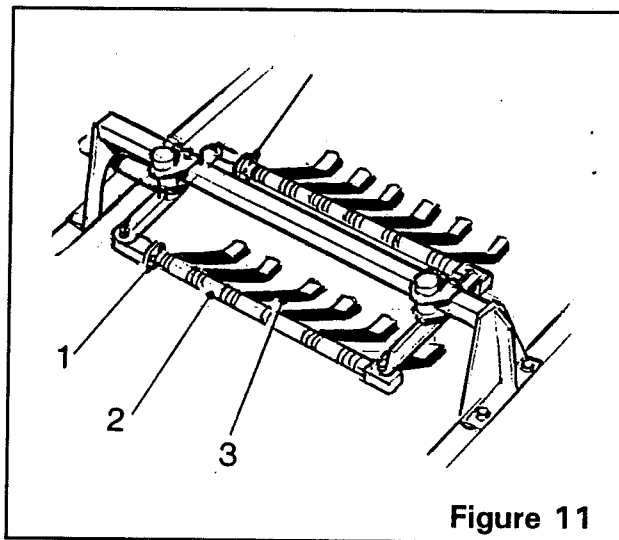

Figure 11
The optional sweeping clod fingers assist in separation. The sweeping clod fingers are fully adjustable for height so enabling the operator to vary the amount of separation. To adjust, loosen the four retaining bolts (item 1, figure 11) and pivot the support beam (item 2, figure 11) until the clod fingers (item 3, figure 11) are at the required height. Once in position, retighten the the retaining bolts.